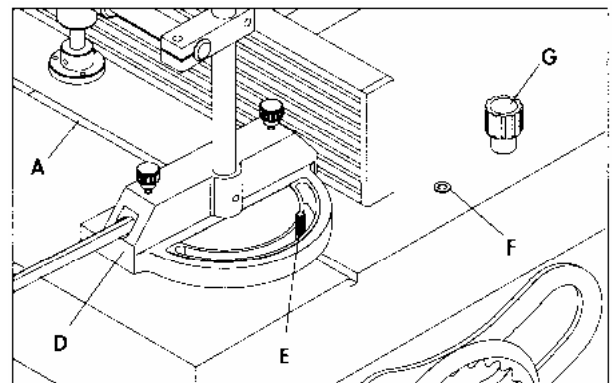

Fig. 3.29
2. Fig.3.29 illustrates the miter gauge bar (A) in the table slot. Place the miter gauge (D) on the bar with stud (E) of bar protruding up through opening in miter gauge body as shown. Fasten in place using washer (F) and lock knob (G).